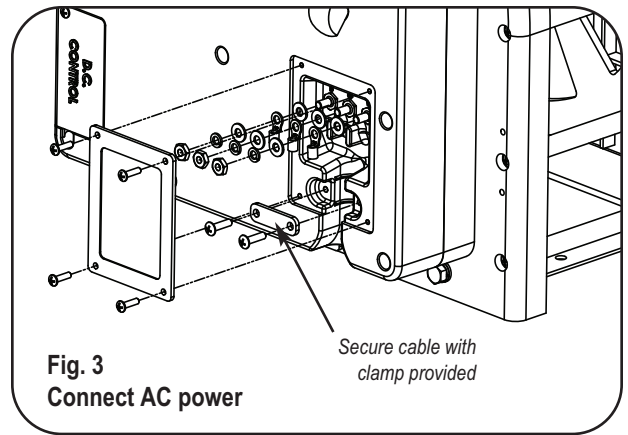

Fig. 3
STEP 3. CONNECT AC POWER TO CABLE (Fig. 3)